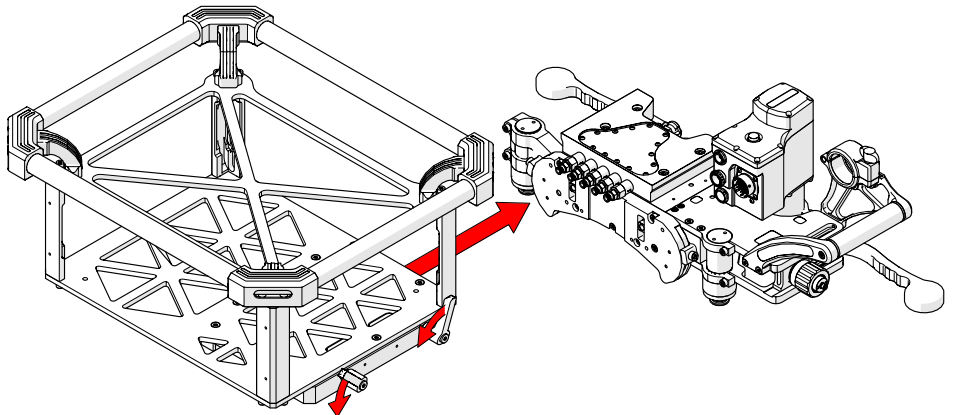

Fig. 94 - Loosen ratchet levers and align with the instrument box frame mount on the carriage
1. Ensure the ratchet levers are loose (*Fig. 94*).